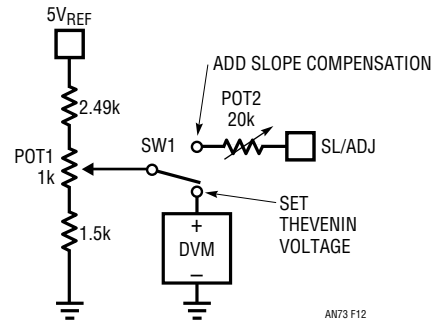

Figure 12. Slope Compensation Adjustment Setup Circuit
- Construct the subcircuit shown in Figure 12 and connect it to your switcher.